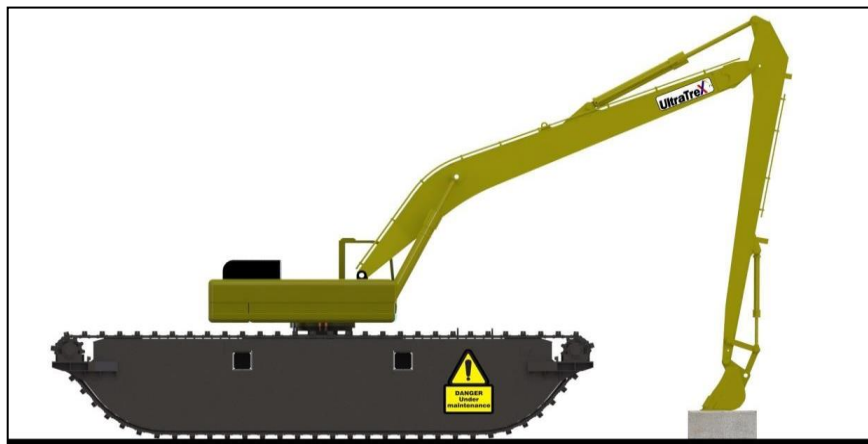

Figure 5.1: Sign during inspection and maintenance
2. Before performing any inspection or maintenance on the machine, place an "INSPECTION / MAINTENANCE IN PROGRESS" sign in a place visible to others, to avoid unwanted incidents. Refer to Figure 5.1.